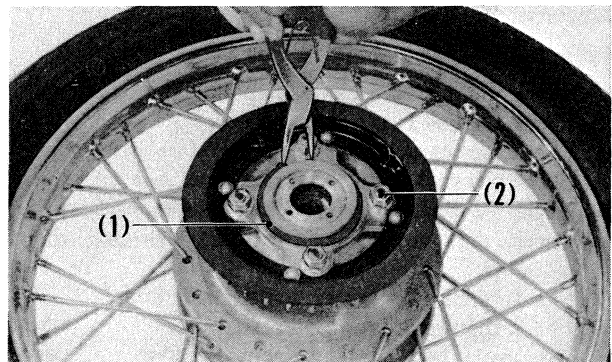

Fig. 5-44 (1) 69 mm snap ring
3. Install the final driven sprocket to the wheel hub squarely as shown in Fig. 5-44.